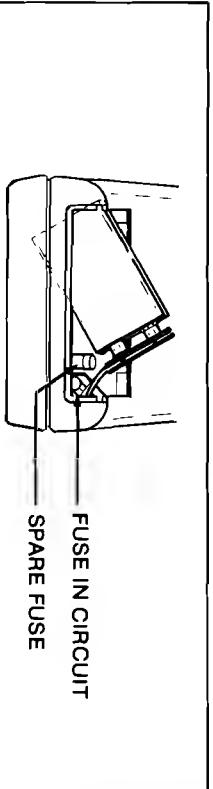

Figure 2-2. Battery Removal and Fuses
- Slide the battery out of the compartment as shown in Figure 2-2.
When you installed the battery, you probably noticed two fuses at the right side of the battery compartment (refer to Figure 2-2 or examine your instrument). The fuse at the far right is F1. Fuse F1, 2A/250V, protects the current input from an input overload. The other fuse is a spare fuse for F1. When you purchase your instrument, F1 should be installed and the spare fuse should be in one of the two slots next to it. The larger slot is for the American-style fuse, and the smaller slot is for the European-style fuse (either style fuse fits in the installation compartment).